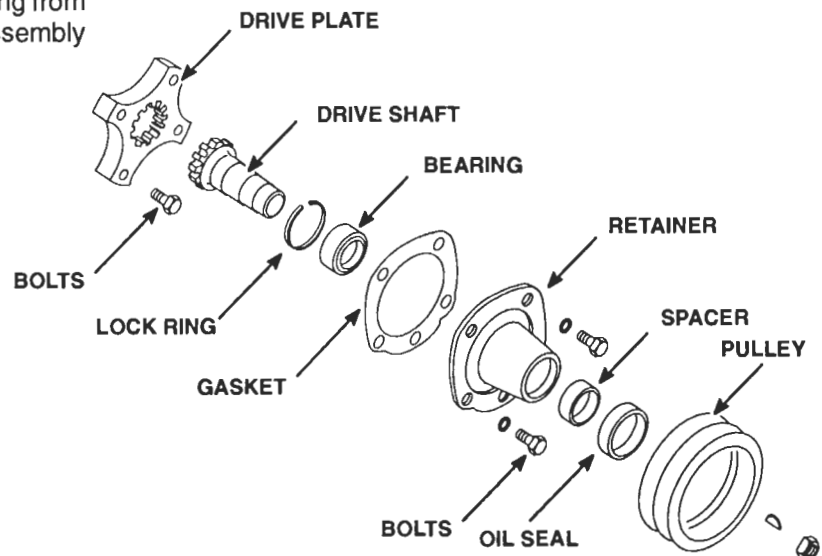

Figure 4. Accessory Drive Components for Belt-Driven Accessory (Drive Plate Type)
7. Remove the snap ring and ball bearing from the accessory drive shaft retainer assembly (Figure 4.)